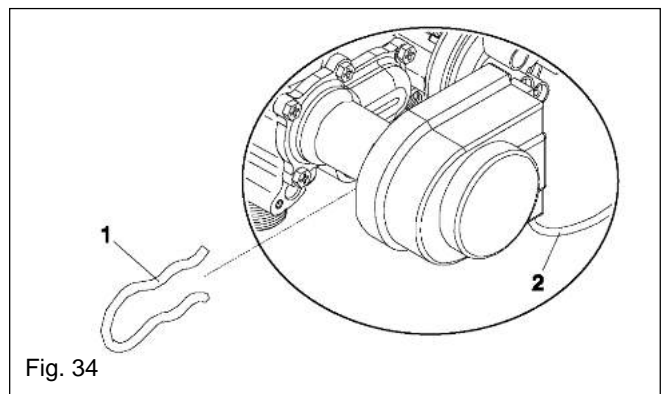

Fig. 34
6.22 VALVE ACTUATOR (see fig. 34)